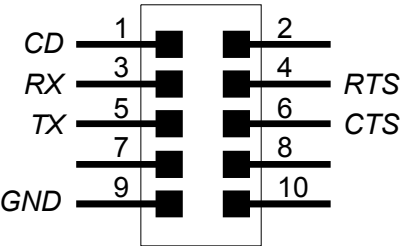
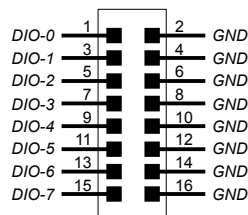

Fig. 2-18. RS232C interface connectors pinout for TORNADO-E54x.
Fig.2-21. Parallel digital I/O connector pinout (*DIO-0..7* signals) for *TORNADO-E54x*.
Pinout for TORNADO-E54x on-board RS232C external interface connectors is presented at figure 2-18.
Pinout for *TORNADO-E54x* on-board JP14 parallel digital I/O connector is presented at fig.2-21.
- if required, plug-in RS232C or RS422/EIA-530 cables sets into on-board JP8..JP11 connectors (figures 2-18 and 2-19) and digital I/O cable set into on-board JP14 connector (figure 2-21)